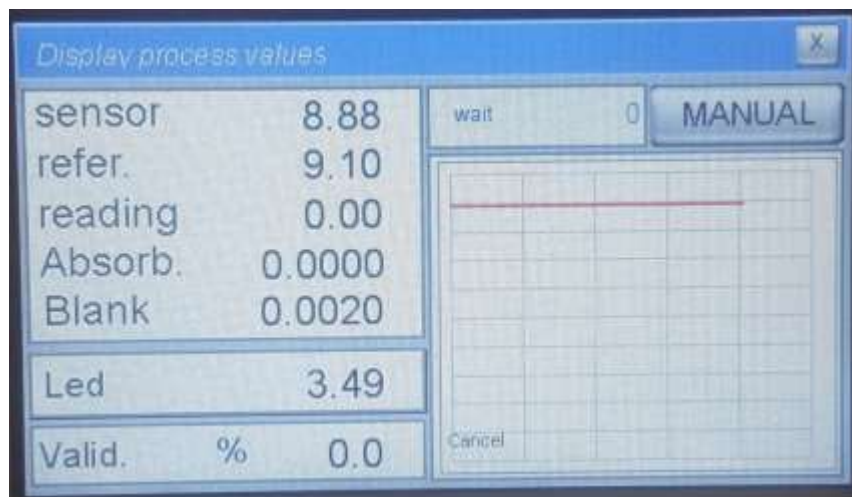

Figure 5.4: User interface in the DISPLAY Menu.
- After each analysis cycle using DI water, record the “Absorb.” Value on the display screen (Fig. 5.4)